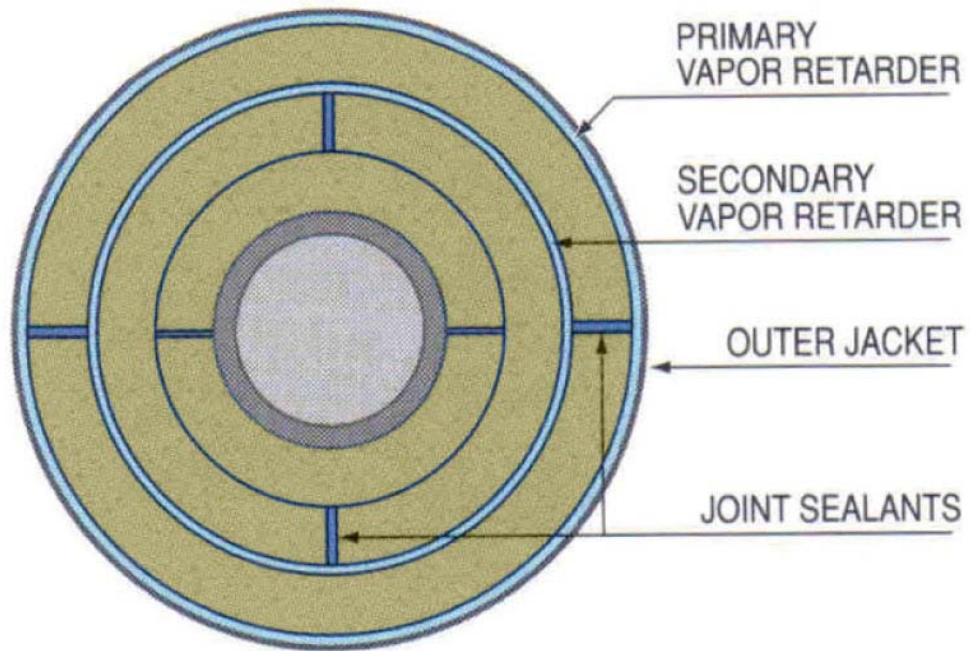

Figure 2
- 3.4.1 A double layer vapor retarder design shall be used for LNG applications. The secondary vapor retarder shall be applied between the outer most foam insulation layer and the next inner layer of foam insulation. A primary vapor retarder shall be applied to the outer most foam insulation layer. Refer to Figure 2 in Appendix B for details.
- 4.1.4 Where insulation thickness required is greater than 5", utilize a triple layer system. Stagger all longitudinal joints between the inner, middle, and outer layers. Install the inner, middle, and outer layer longitudinal joints 90° to each other with the inner layer joints in the 3 and 9 o'clock positions, the middle layer joints in the 12 and 6 o'clock positions, and the outer layer joints in the 3 and 9 o'clock positions. All butt joints between the inner, middle and outer layers shall be staggered between 6 and 18 inches. Refer to Figure 2 in Appendix B.